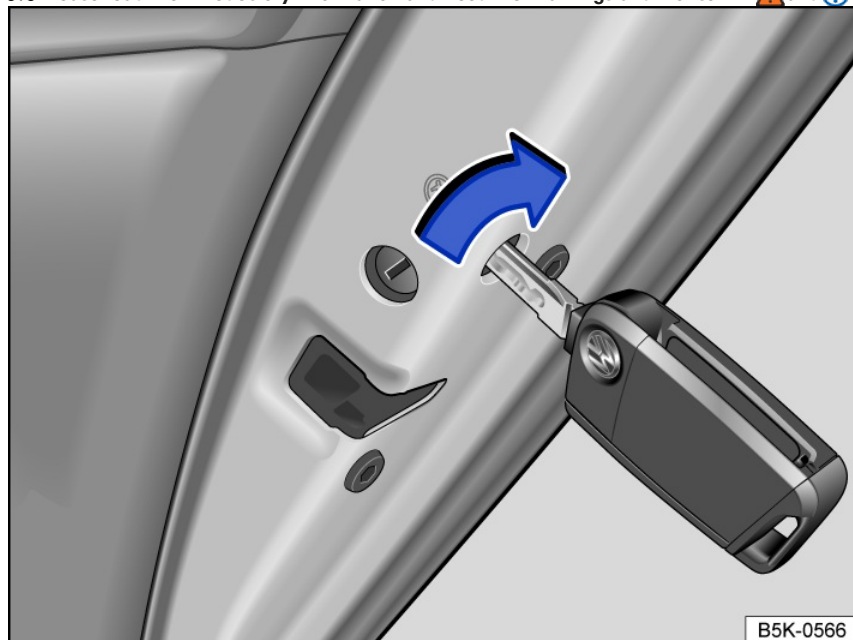

Fig. 59 On the front of the right rear door: manually locking the vehicle with the vehicle key.
- Insert the key bit or emergency key into the slot and turn it *fig. 59*.